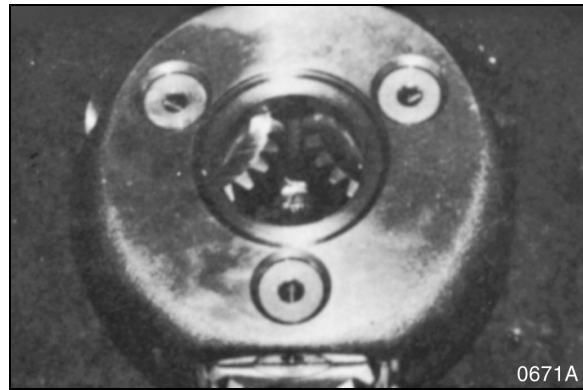

Figure 55
8. The carrier assembly (shown in Figure 55) should not be disassembled. If component gears or other parts are worn or damaged, replace the carrier as a complete assembly, consisting of the following components: 1 carrier (3, Figure 13), 3 gear sets (6), 3 gear shafts (9), 6 thrust collars (14), 6 needle bearings (25) and 3 parallel pins (34).